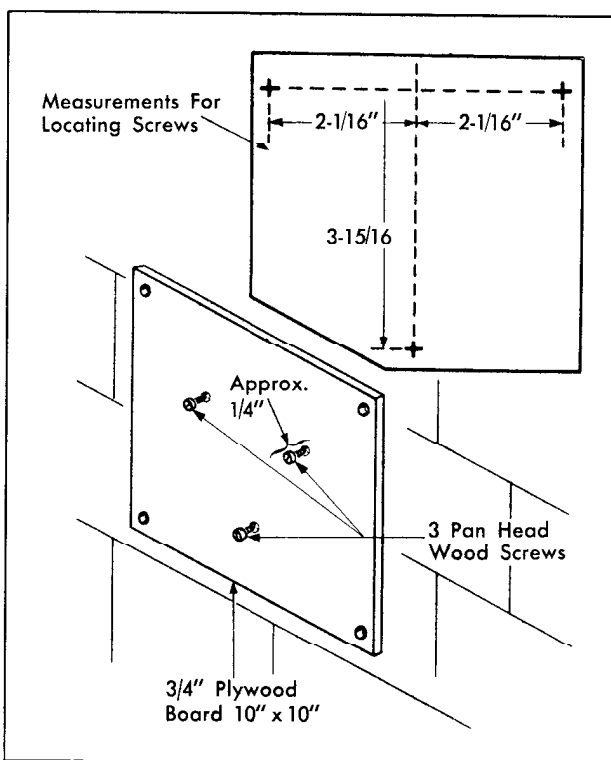

Fig. 13-88 Aiming Fixture
- Install three 1/2" No. 6 pan head wood screws on the board as shown in Fig. 13-88. The screw heads should be approximately 1/4" from board.